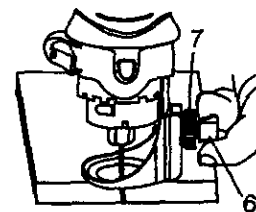

Fig. 5
1. Adjust freehand sole plate depth by loosening the depth gauge locking knob (6) and rotating the adjusting knob (7) to move the sole plate in or out as required (see Fig. 5).
4. Adjust depth of freehand sole plate as shown in Fig. 5.